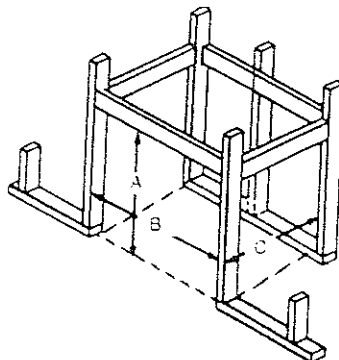
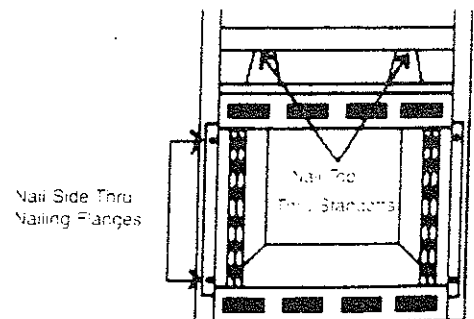

Figure 5. Framing Dimensions
Figure 6. Fasten appliance in position using the nailing flanges or top standoffs.
Appliance framing can be built before or after the appliance is set in place. Framing should be positioned to accommodate wall covering and appliance facing material. The appliance framing should be constructed of 2 x 4 lumber or heavier. The framing headers may rest on the top of the appliance standoffs. Refer to Figure 5 and Figure 6 for appliance framing dimensions.
One (1) method is to use the nail flanges provided with the appliance. (See Figure 6.) The appliance may be secured to the vertical framing members with these flanges and nails or other suitable fasteners.
The second method uses the standoffs at the top of the appliance. A nail may be installed through the standoffs and into the header to stabilize the top of the appliance. (See Figure 6).